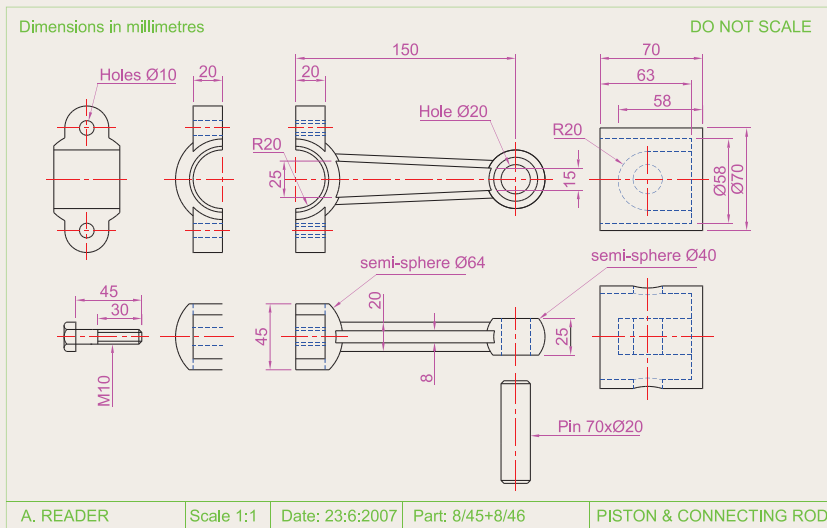
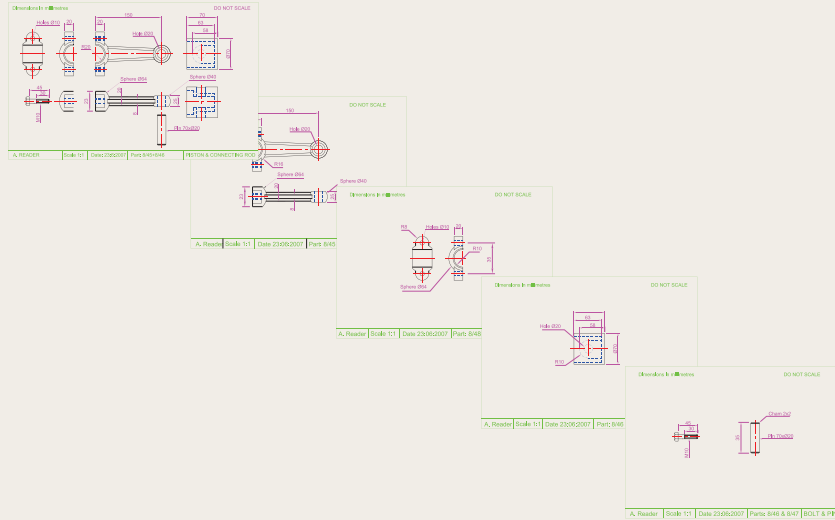

Fig. 11.15 Exercise 1 – exploded orthographic projection
Fig. 11.17 Exercise 1 – The five drawings in the sheet set
- Figure 11.15 shows an exploded orthographic projection of the parts of a piston and its connecting rod. There are four parts in the assembly. Small drawings of the required sheet set are shown in Fig. 11.17. Construct
the drawing shown in Fig. 11.15 and also the four drawings of its parts. Save each of the drawings in a **Layout1** format and construct the sheet set which contains the five drawings.